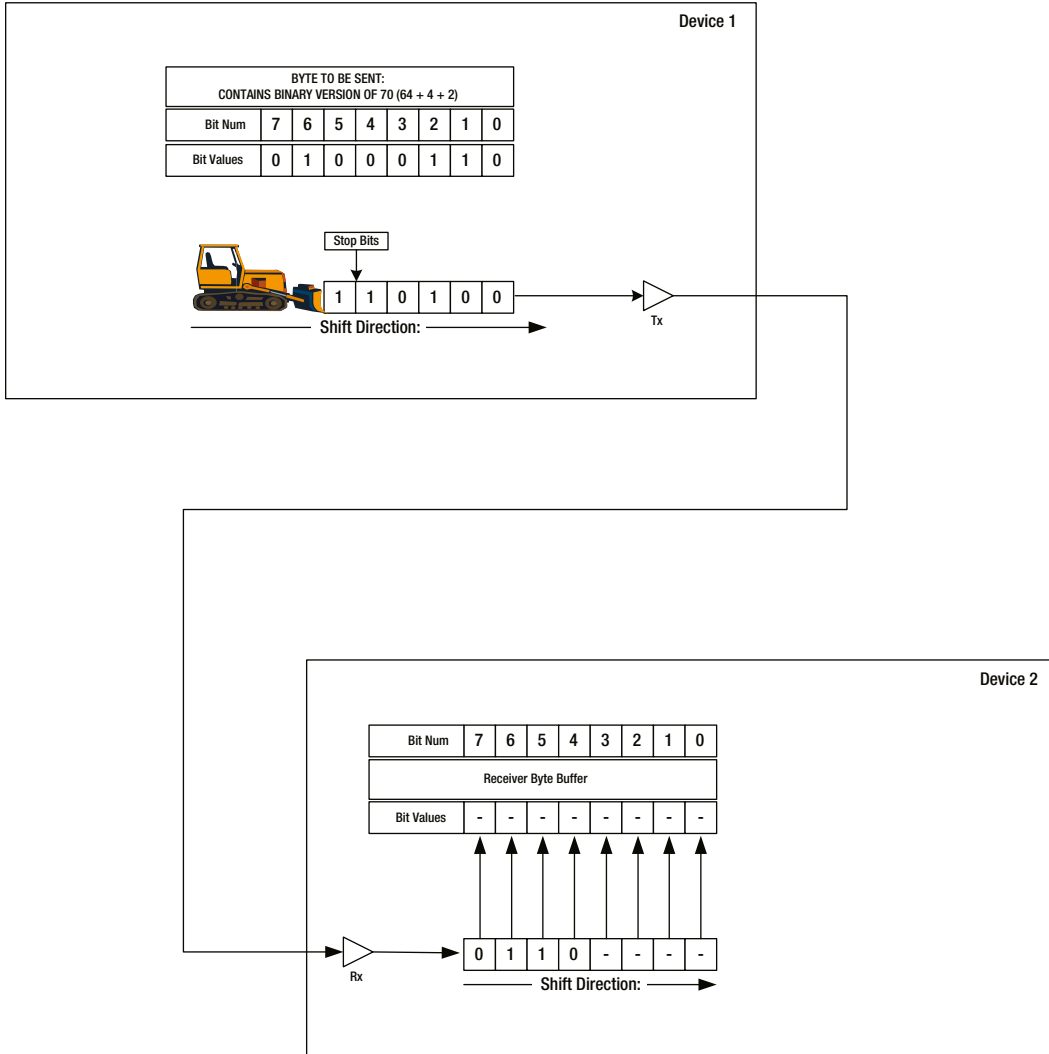

Figure D-4. Asynch serial transmission illustration (halfway done)
- The byte contents are copied into a transmitter buffer, which also contains space for some extra bits, a start and two stop bits (see Figure D-4, below).
- Figure D-4 shows how things will look after four bits of the payload have been sent in this fashion. As you can see, although the receiver read the start bit, it has not saved it anywhere. However, bits 0 to 3 of the payload byte have been shifted into the receiver’s RX line buffer and bit 4 is now in transfer.